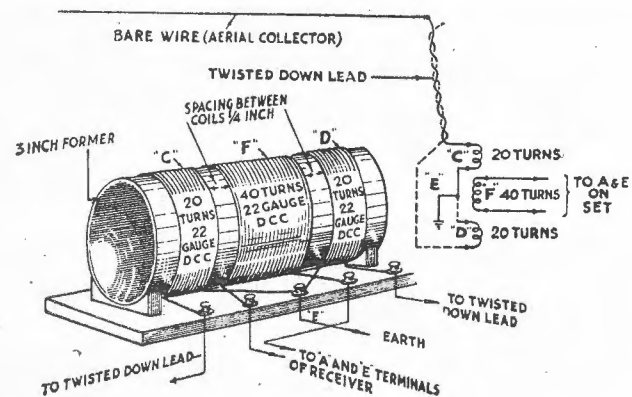

Figure 13.
and claims mentioned will not be discussed, but mention might be made of the simple arrangement which in a number of instances has been suggested by investigators as a possible remedy. The "neutralised" aerial is the one referred to and is shown in Fig. 13.
(1) It is suggested that in the observed experience of greater noise above 1000 KC. than below it there may be a factor related to the relatively short lengths of electric wiring associated with domestic electric appliances. This would tend to increase the fundamental frequency at which the noise disturbance is predominantly produced. It is known from other observations that Tramway Systems, where long lengths of wire are customarily associated with impulsing sources, produce noise the fundamental frequency of which is relatively low.
(2) Regarding the case of an objection to the use of condensers and suppressors where the objector believed they would add to his current consumption. It is pointed out that alternating current flowing through any reasonably good condenser is almost entirely wattless and therefore incapable of dissipating power. As Mr. Conry himself mentioned in the paper, the presence of such condensers may be of actual benefit in improving the power factor of a consuming device.
(3) Mr. Conry was asked whether he had occasion to compare the merits of screening wire of close mesh with that of wider mesh when shielding diathermy equipment, for example—"Is galvanised iron wire netting of about 1/2 in. mesh effective?"
(4) In the neutralised lead-in aerial system shown in fig. 13, had the lecturer observed any increase in the pick-up by converting it from an unbalanced system to a doublet?
(5) With reference to the Tobe interference locator, Mr. Conry was asked whether his observations of a signal meter in this set had shown the signal-noise ratio below which interference was not deemed serious.
(6) In connection with references to legislation, Mr. Witt said that he believed in Germany manufacturers were allowed to apply to their apparatus a small red label bearing the legend "Radio Clear" if the apparatus was deemed by the Government incapable of causing audible interference.